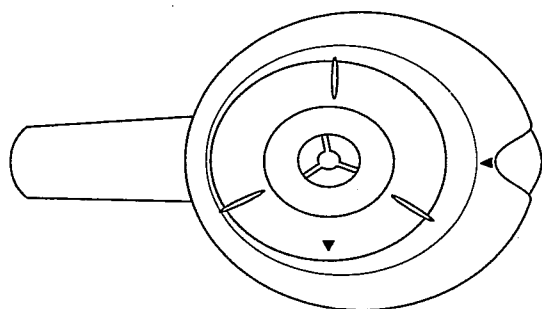

Figure 6
12. Upon completion of the brew cycle, turn off the unit, and wait until dripping has stopped before removing the Carafe. If you wish to remove the Thermal Carafe to a more convenient location, seal the Thermal Carafe by turning the Carafe Lid clockwise until tight and it is in the LOCKED POSITION. (See Figure 6.) The Thermal Carafe will maintain the serving temperature for several hours.